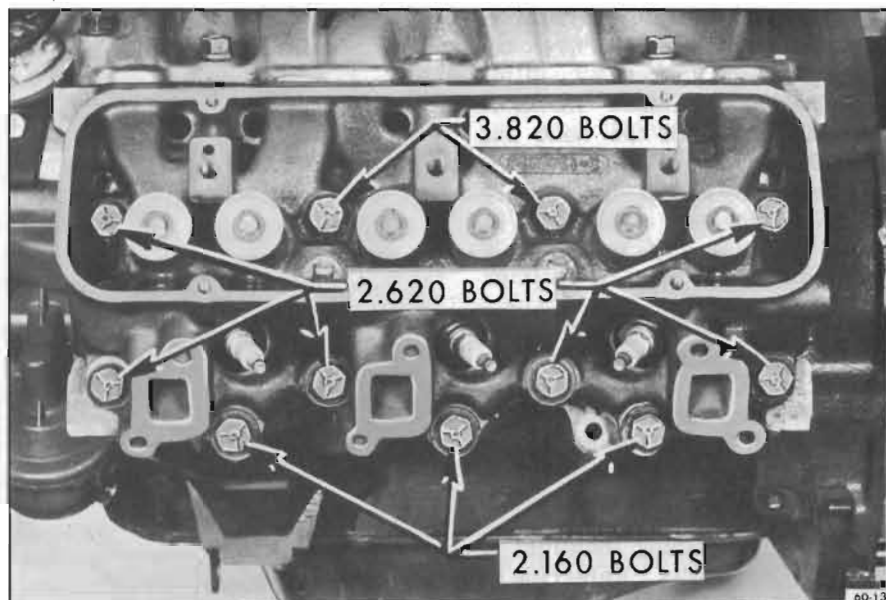

Figure 60-13—Cylinder Head Installation
5. Clean and lubricate the head bolts with "Perfect Seal" sealing compound. Install bolts as shown in Figure 60-13.
6. Tighten the head bolts a little at a time about three times around in the sequence shown in Figure 60-13. Give bolts final torque in same sequence. Torque to 70-75 lb. ft.